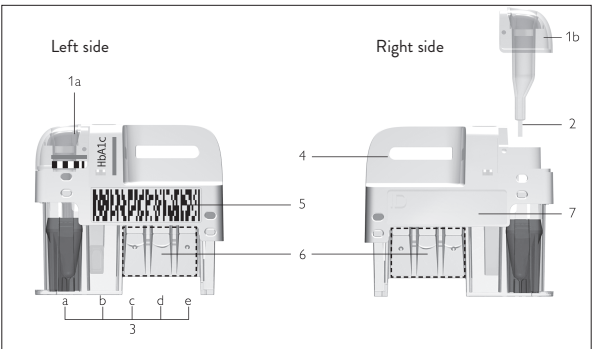

Figure 1 Afinion HbA1c Dx Test Cartridge.
- Do not touch the test cartridge optical reading area (figure 1).